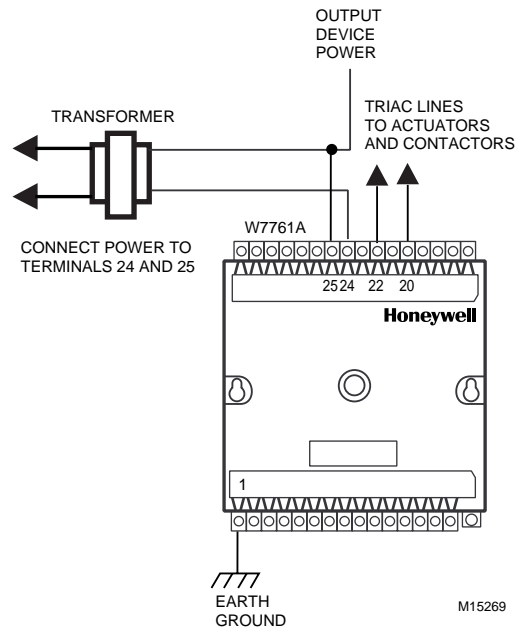
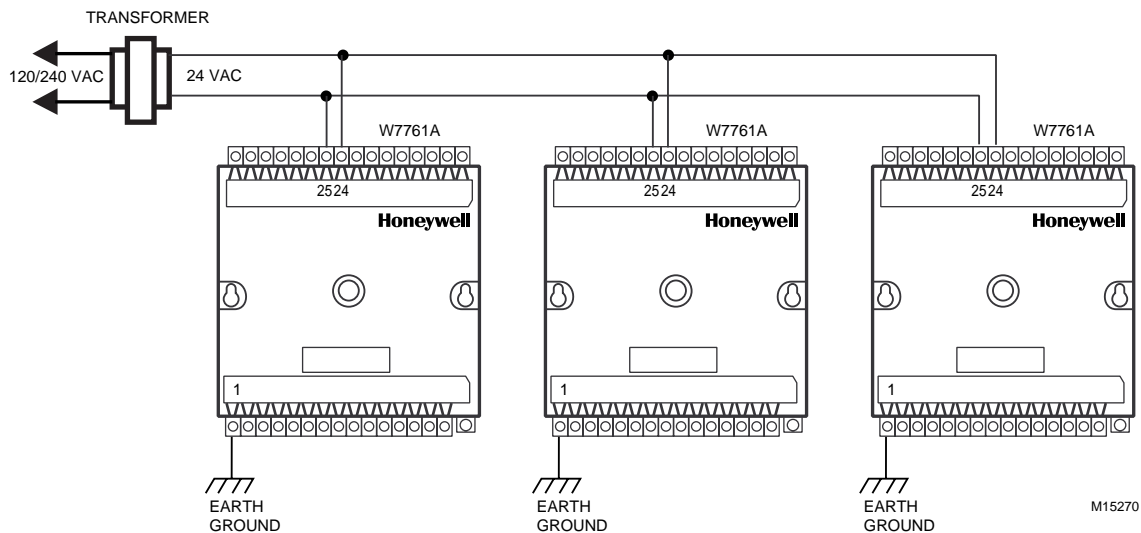

Fig. 4. Power wiring details for one Excel 10 per transformer.
Fig. 5. Power wiring details for two or more Excel 10s per transformer.
- For multiple devices operating from a single transformer, the same side of the transformer secondary must be connected to the same power input terminal in each device. The ground terminal (1 on the W7761A) must be connected to a verified earth ground for each device in the group, see Fig. 5. (Device configurations are not necessarily limited to three devices, but the total power draw including accessories cannot exceed 100 VA when powered by the same transformer (U.S. only). See System Engineering form 74-2699 for power wiring recommendations.
The 24 Vac power from an energy limited Class II Power Source must be provided to each W7761A Device. To conform to Class II restrictions, transformers must not be larger than 100 VA (U.S. only). A transformer that meets CE mark requirements and that meets the Low Voltage Directive (LVD) requirements must be used in Europe for all installations of this product. More than one W7761A can be powered by a single transformer. Fig. 4 shows power wiring details for a single device and Fig. 5 depicts multiple devices using one transformer.
- 24 Vac power connections. Verify that multiple devices powered by the same transformer are wired with the transformer secondary connected to the same input terminal numbers on each W7761A. See Fig. 5. (Device configurations are not necessarily limited to three devices, but the total power draw including accessories
- Device wiring. Be sure that each device is wired (terminal 1) on the W7761A to a verified earth ground using a wire run as short as possible with the heaviest gauge wire available, up to 14 AWG (2.0 mm²) with a minimum of 18 AWG (1.0 mm²) for each device in the group. See Fig. 4.